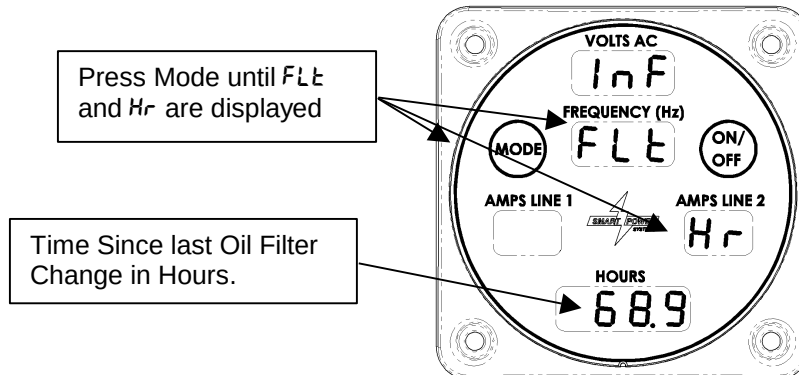

Figure 32 – Oil Filter Run Time Display
3. The system controller automatically records the time from the previous filter change. The hours since the previous filter change can be accessed using the Command & Control Center by pressing the Mode switch until the following screen appears (reference Figure 32):